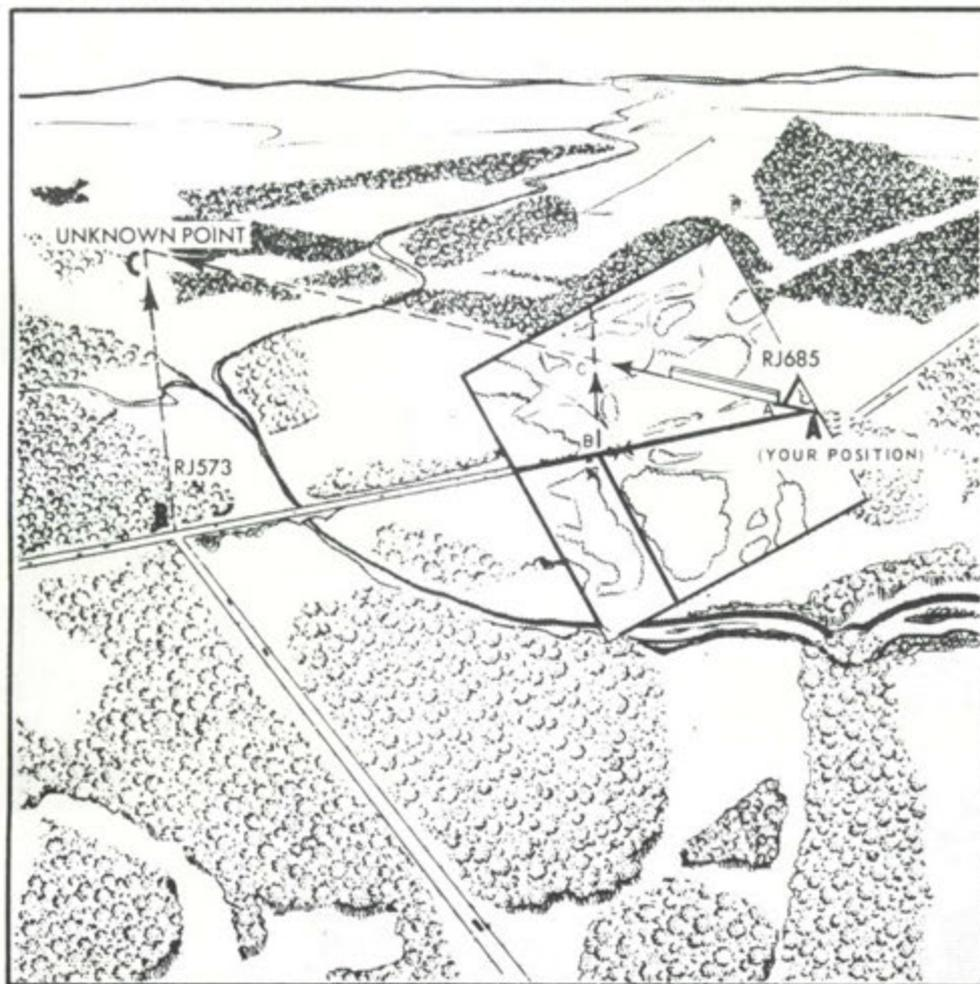

Figure 2. Intersection without compass.
2. **Straightedge Method (when no compass is available)** (figure 2).
c. Lay a straightedge on the map with one end at user's position (A) as a pivot point and rotate the straightedge until the unknown point is sighted along the edge.
e. Repeat the above procedure at position (B) and for a check on accuracy at a third position.
f. The intersection is the location of the unknown point (C).